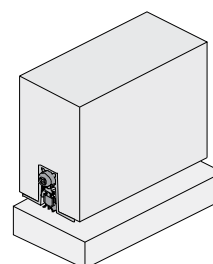

Figure 2
- Step 8** Drill pilot holes and then screw fix seal into position. See Fig 2. Fit end caps.